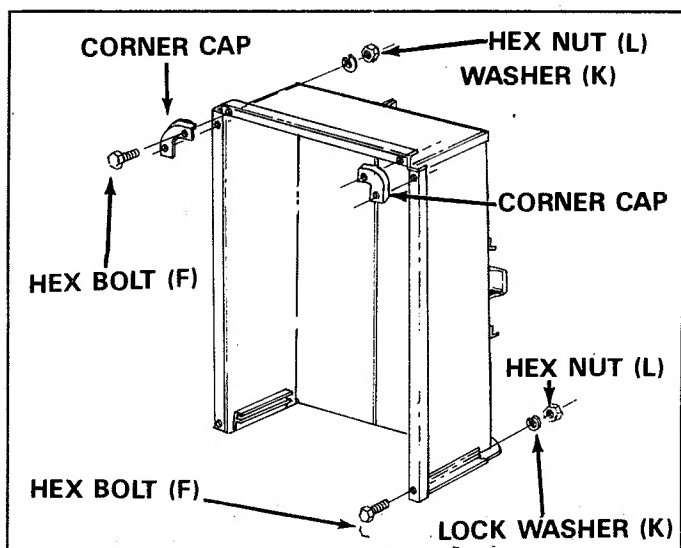

FIGURE 9
14. Assemble two front top corner caps and two bolts in top flanges through tailgate reinforcement bracket using 1/4" x 1/2" hex bolts (F), lock washers (K) and hex nuts (L). See figure 9.